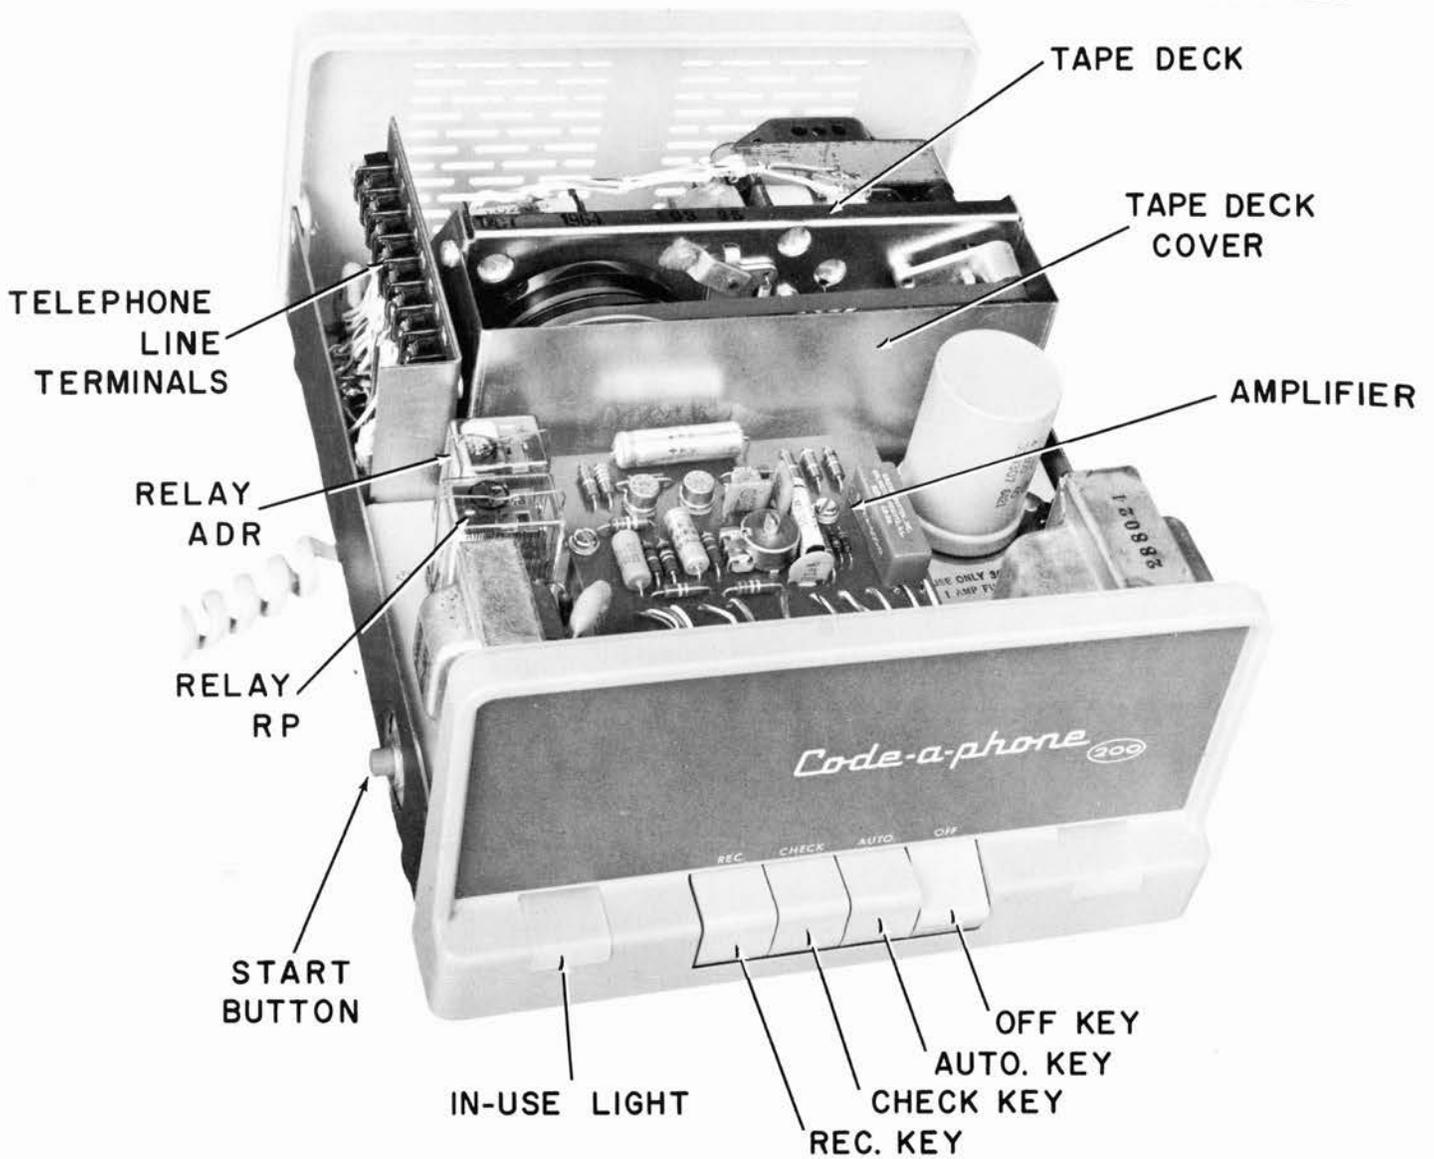

FIGURE 1 MODEL 200A, COVER REMOVED
1. Referring to the OPERATING INSTRUCTIONS on page 1, record a test announcement onto the Model 200A. Verify that the IN USE light works (fig. 1).
- b. Spread sides of cover slightly to clear START button (fig. 1) and lift straight up to remove.
3. RELAYS RP and ADR (fig. 1):
4. TAPE DECK (fig. 1):
- (1) Remove tape deck from machine (page 7).
- (2) Remove three 6-32 x 5/32" screws and tape deck cover (fig. 1).